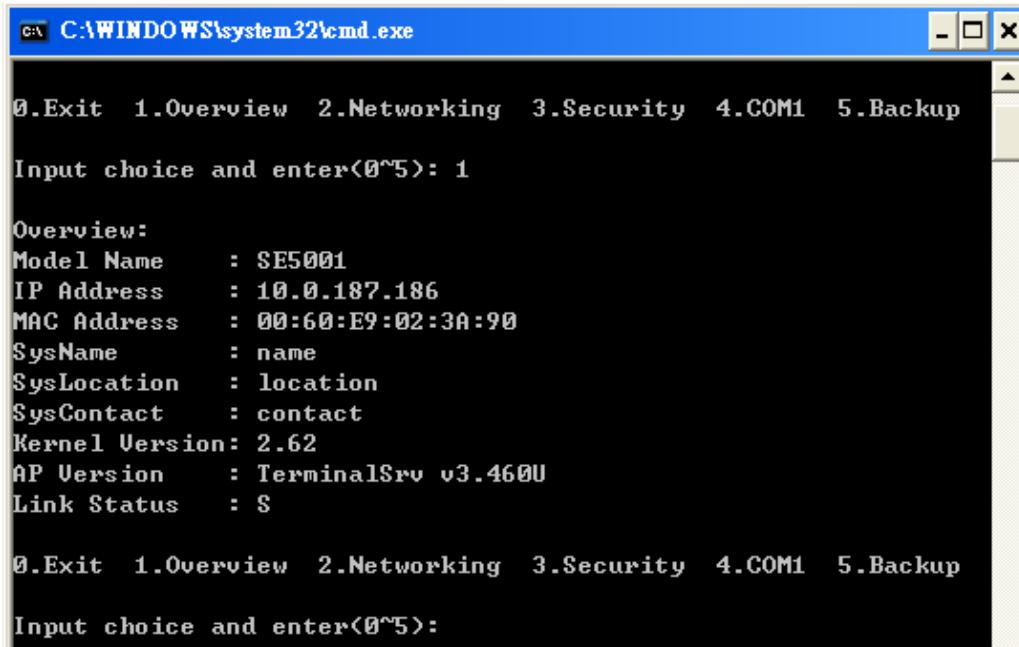

Figure 3.3 Overview
->Select “1” from “Input choice and enter (0~4):” to enter “**Overview**” (Figure 3.3):